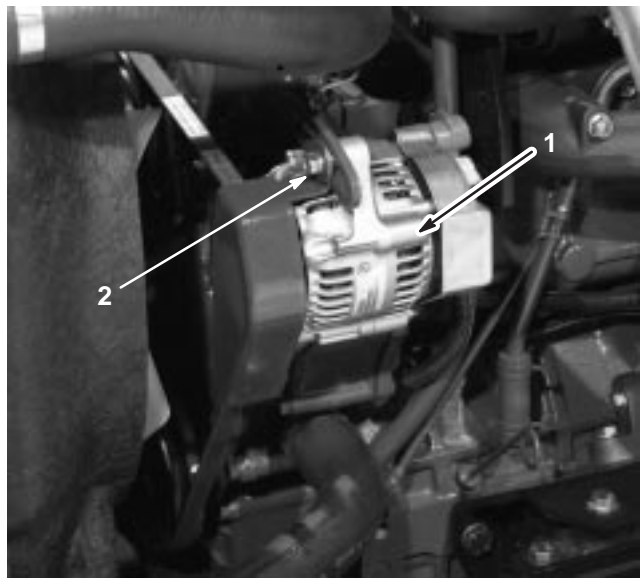

Figure 55
Check the condition and tension of the belts (Fig. 55) after every 100 operating hours.
2. If the deflection is not 3/8 in. (10 mm), loosen the alternator mounting bolts (Fig. 55). Increase or decrease the alternator belt tension and tighten the bolts. Check the deflection of the belt again to ensure that the tension is correct.